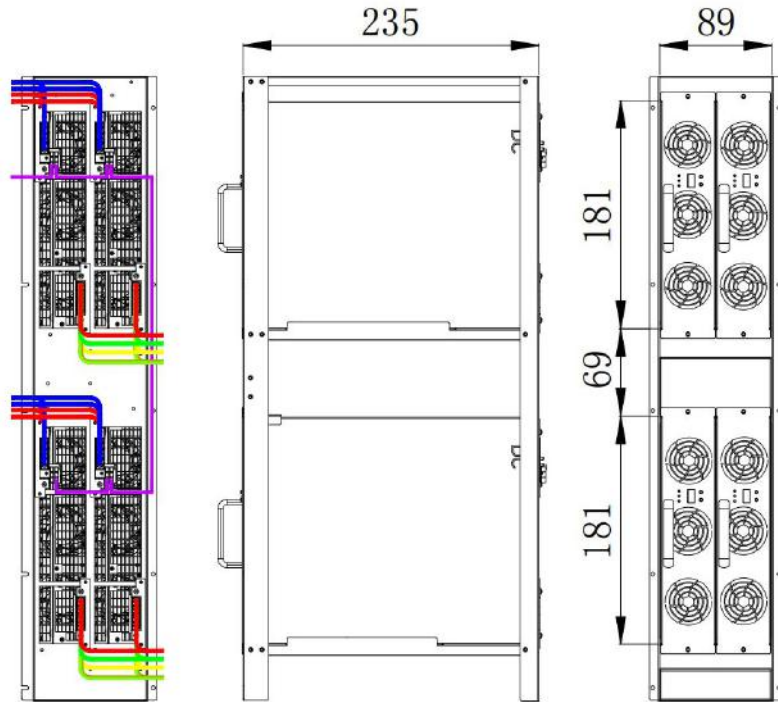
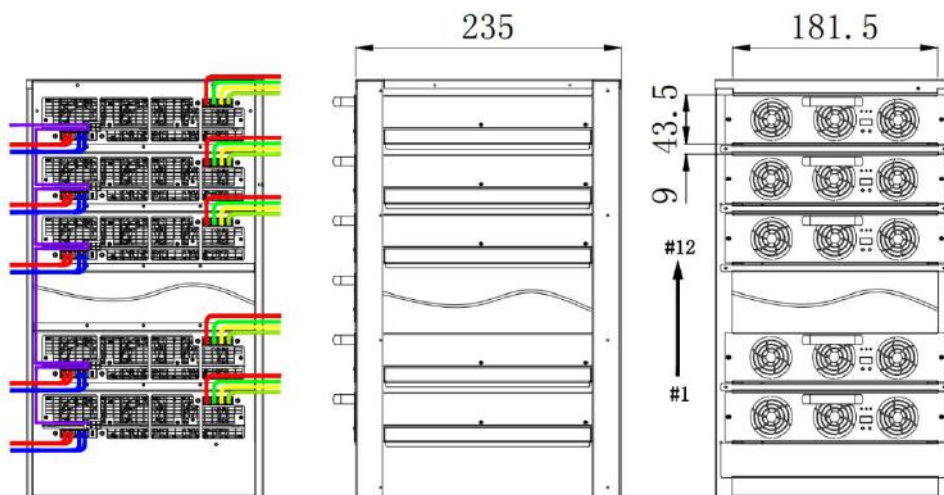

Figure 3-10 Module system wiring diagram (modules placed sideways)
Figure 3-11 Module system wiring diagram (modules placed flat)
- The AC incoming line/DC outgoing line of the charging module inside the system should be fixed on the socket frames on both sides, and the air inlet and outlet channels of the module should not be blocked (as shown in Figure 3-10 and Figure 3-11):